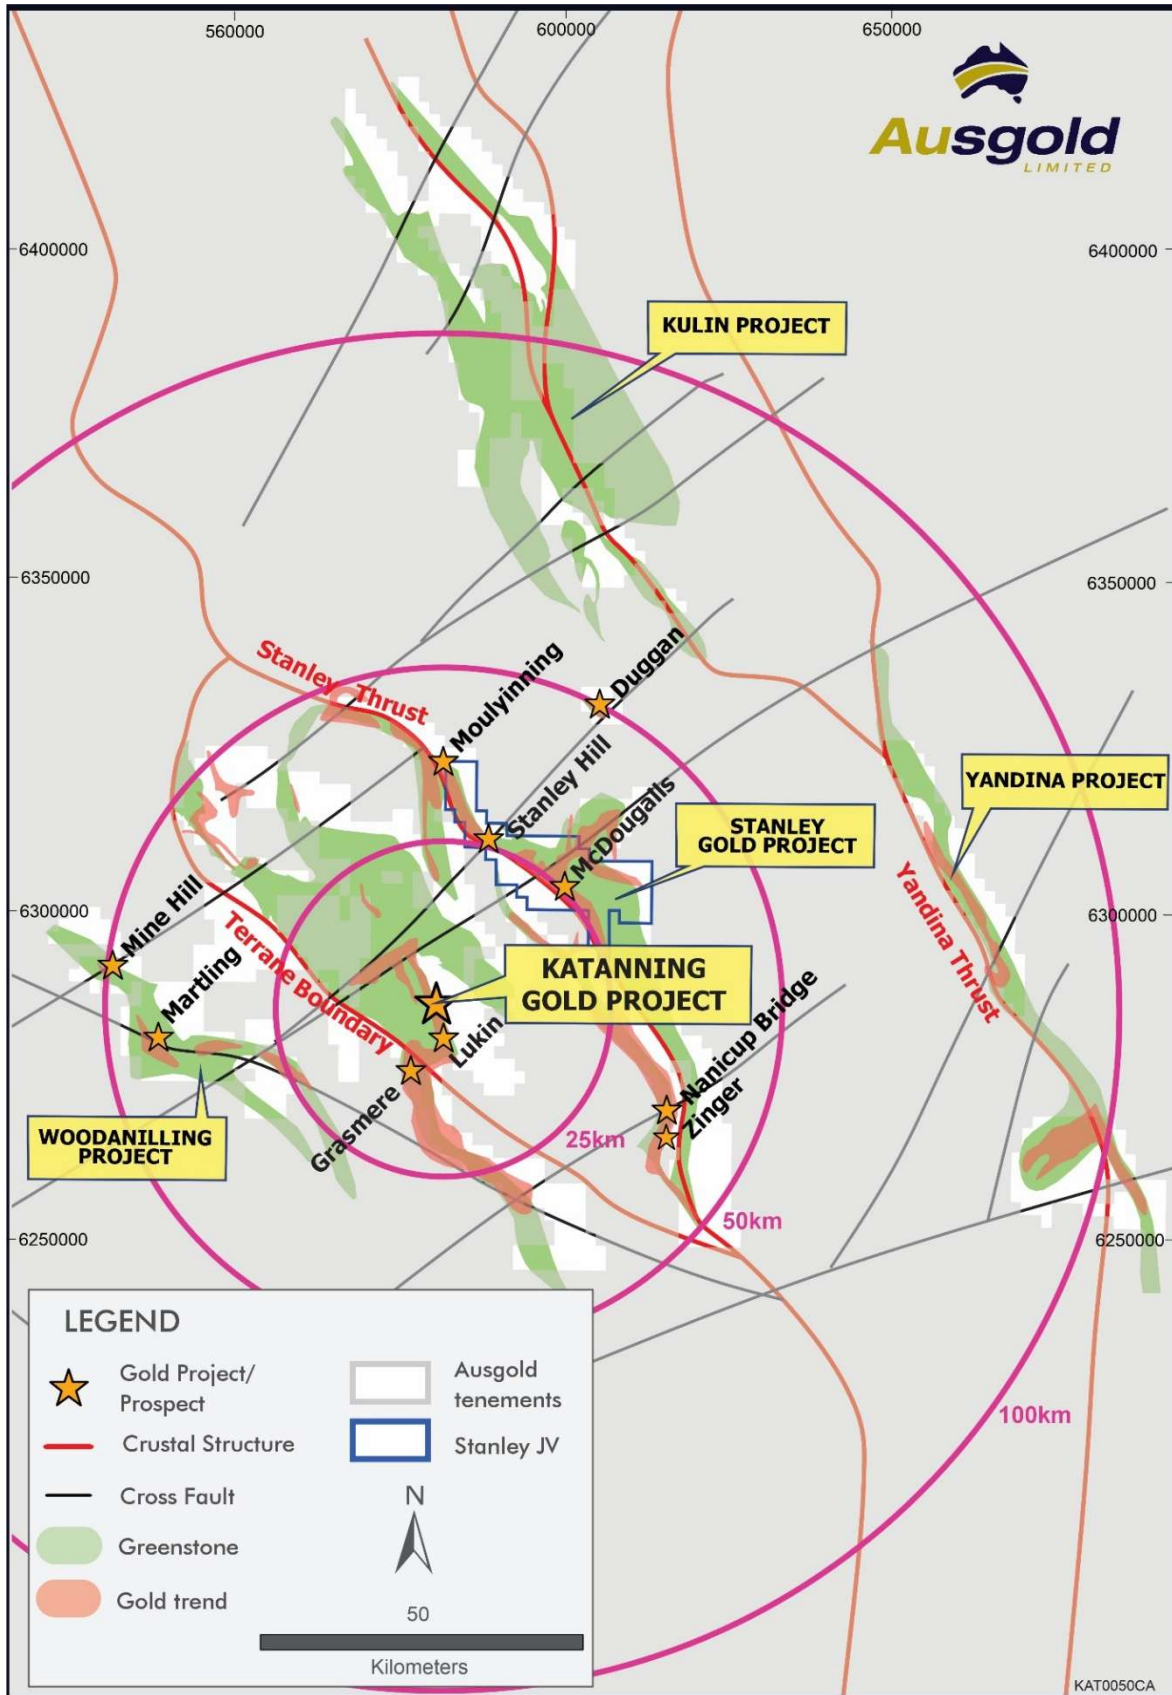

Figure 5 – Geological map with gold prospects and projects within Ausgold's >4,300km2 of tenements.
- 10 holes for 1,174m have been drilled at the Mine Hill and Martling gold prospects in the Woodanilling project area, 15km west of the KGP (Figure 5). Assay results are pending, with further drilling subject to the results of the first 10 holes.
- Throughout December 2024 and January 2025, a 1,800m RC drilling program will be undertaken at the Grasmere prospect, which is a target analogous to the KGP and located only 7km south-west of the KGP's Southern Zone Resource (Figure 5).
- In Q1 2025, four prospects along the Stanley Thrust Trend will be tested with 4,200m of RC drilling – Moulyinning, Stanley Hill, McDougall and Zinger (Figure 5).